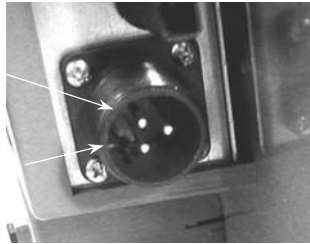

Figure 8a Checking the Lug Position (on the DC Adapter Side)
1. Check the lug positions of the DC adapter IN jack and the WS-DCADAP cable plug. (See Figures 8a and 8b below.)